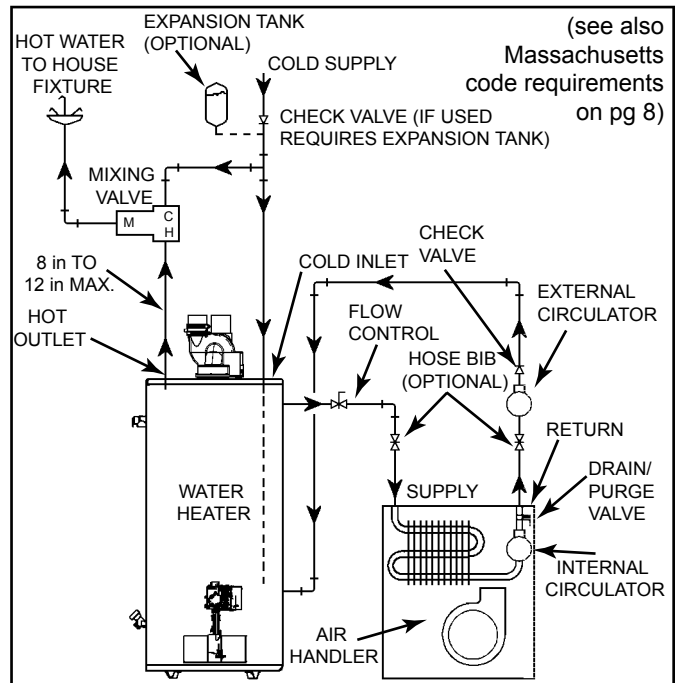
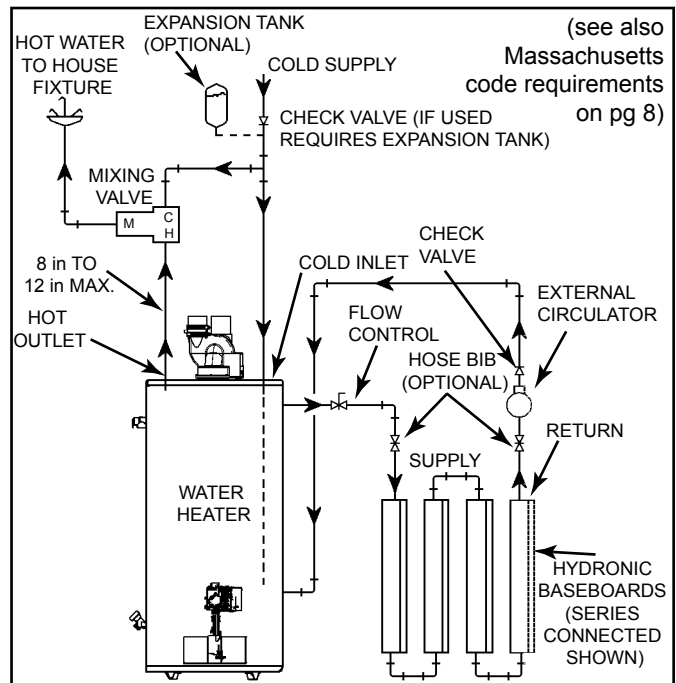

Figure 22
Figure 23
8. “Combo” Heating Systems require higher water temperatures than other applications. When the system is used to supply water for Combo Heating applications, a means, such as mixing valve, must be installed to temper the water in order to reduce scald hazard potential (see Figure 22 & Figure 23).
- A. A fan coil/air handler (Figure 22).
- B. A hydronic baseboard (finned tube) loop/In floor heating (Figure 23).